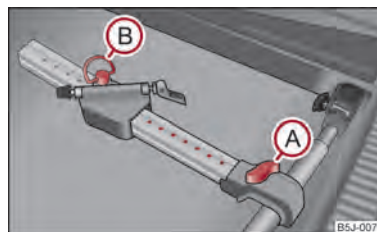

Fig. 54 Install bicycle carrier
- Position the approved bicycle carrier on the cross member, after pulling up the screw (A) ⇒ fig. 54 push the frame side rail (alu-part) towards the cross member until the socket latches, and screw the screw (A) into the nut.
- Slacken the screw (B) on the moveable part of the bicycle carrier and pull out, then position the moveable part of the carrier, depending on bicycle size, into one of the possible positions.
- Insert the screw (B) into the desired position and tighten.